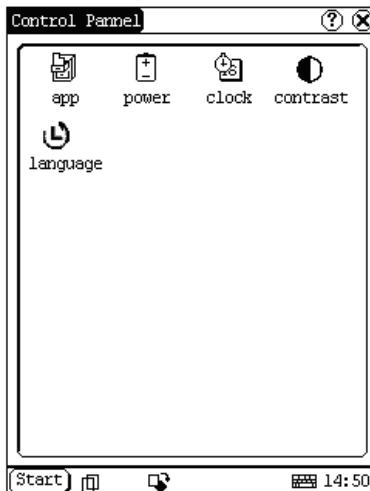

Figure 4-36
- 3) Open the Control Panel interface. (See Figure 4-36)